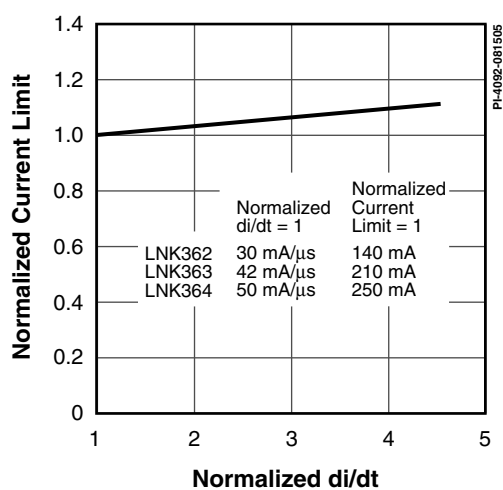

Figure 14. Current Limit vs. di/dt.
- E. For current limit at other  $di/dt$  values, refer to Figure 14.